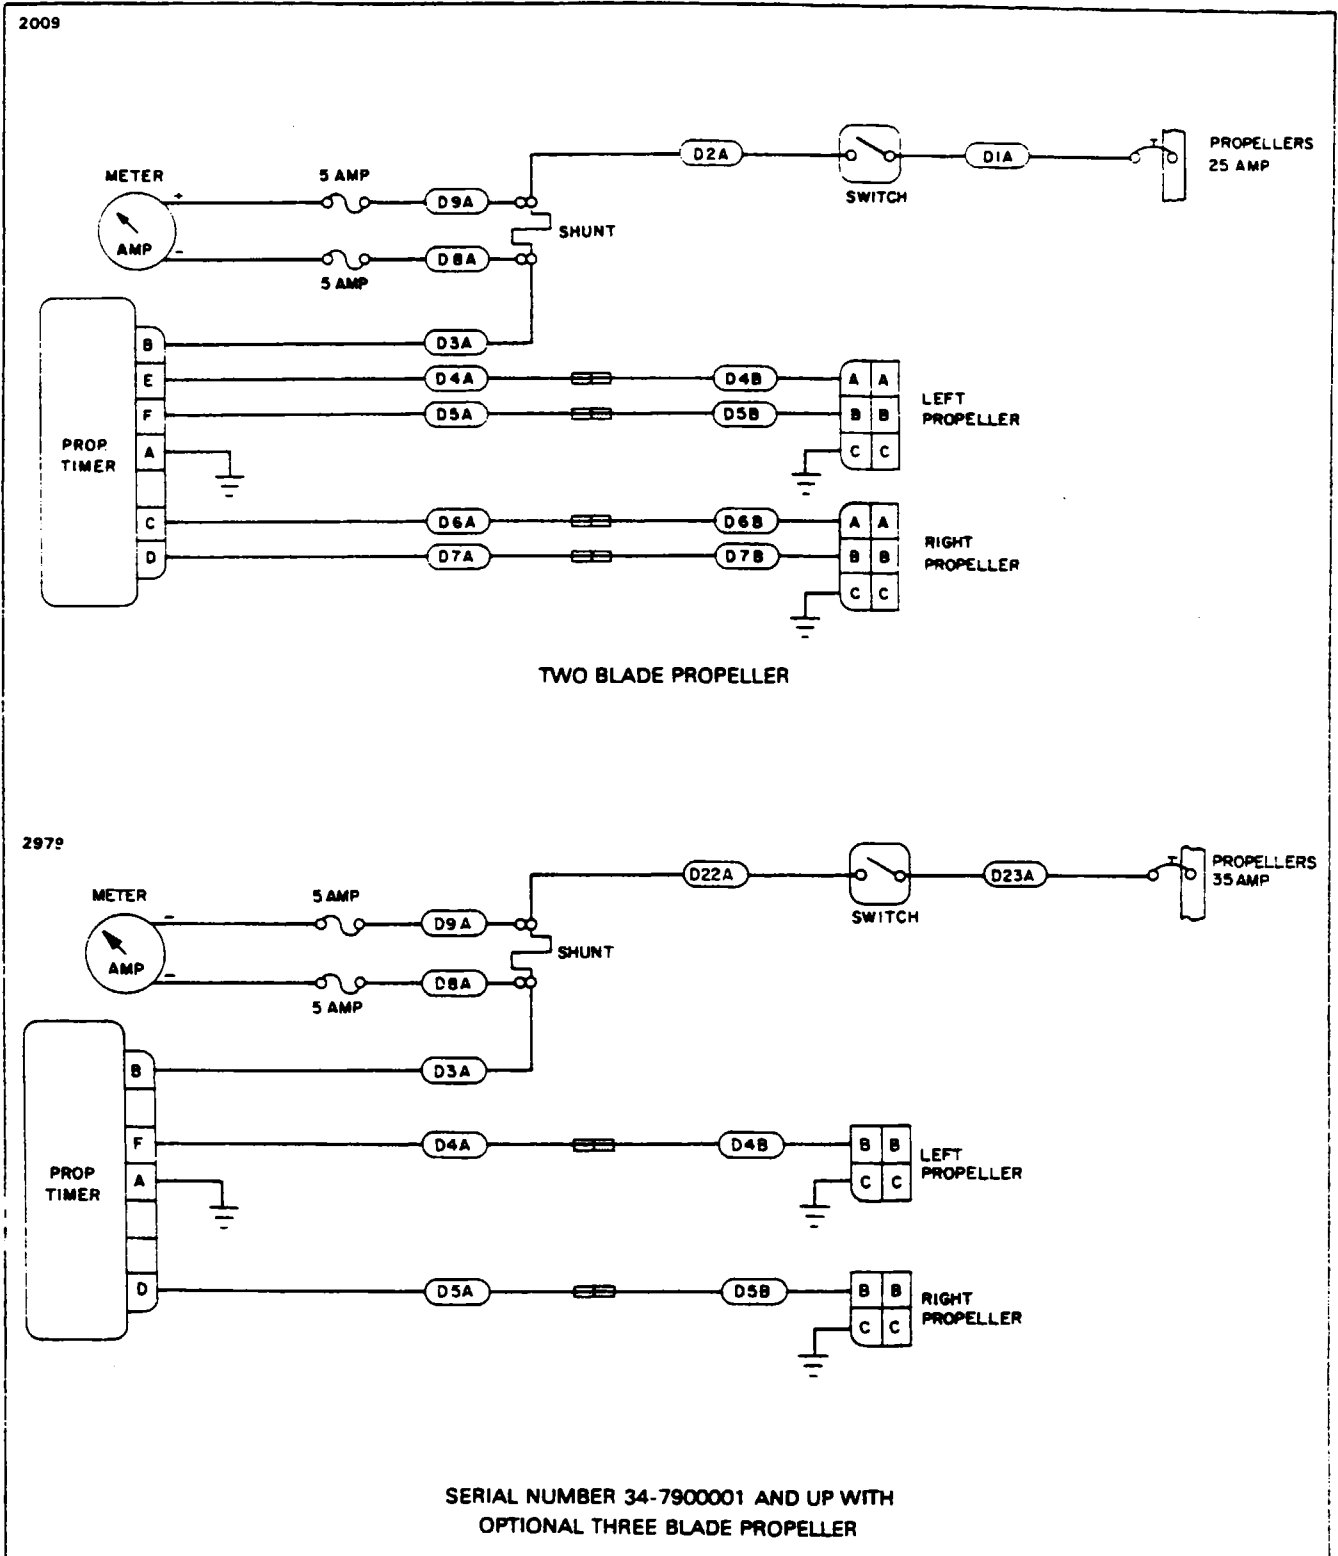

Figure 14-8. Wiring Schematic - Electrical Prop Deicing System
When troubleshooting, first use the "ammeter test" and "heat test" to determine which circuits are involved. Use circuit diagram, Figure 14-8, for assistance to check voltages or continuity.
h. System Wiring: With deicer system operating, have assistant observe ammeter while visually inspecting and physically flexing wiring from brush blocks through fire wall, to timer, to ammeter, to switch and to aircraft power supply. The ammeter will flicker as the timer switches approximately every 34 seconds in the cycle. Jumps or flickers at other times indicates loose or broken wiring in the area under examination at that moment. In such case, check continuity through affected harness, while flexing and prodding each wire in the area that gave initial indication of trouble. Use the wiring diagram in Figure 14-8 to trace circuitry.